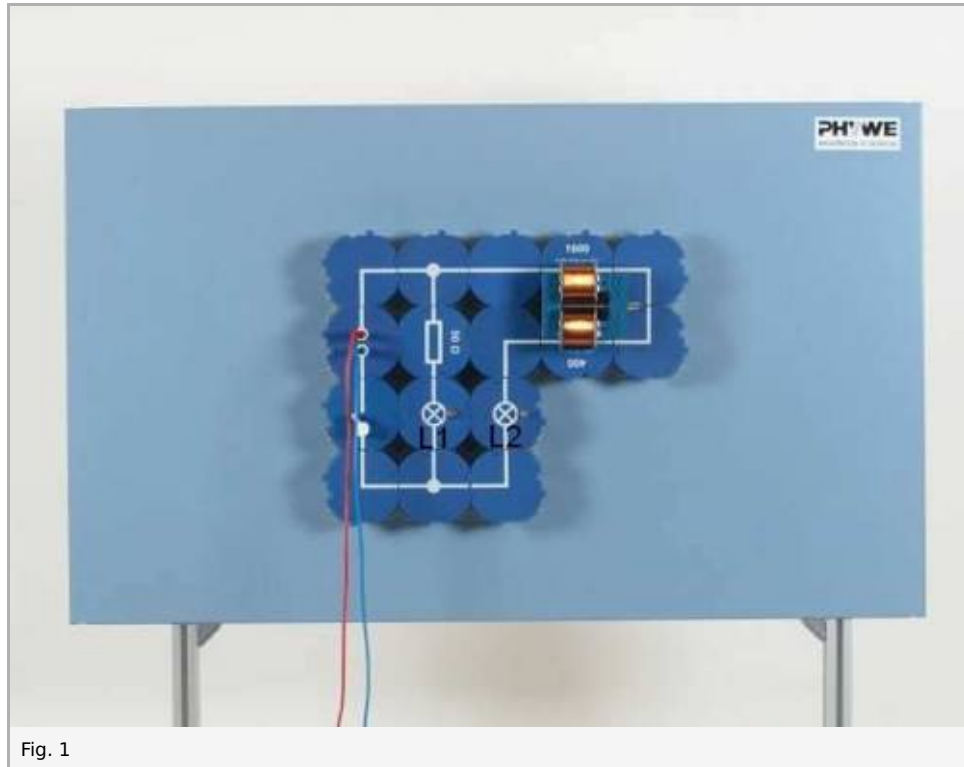

Fig. 1
- Set up the experiment as shown in Fig. 1; Fit the coils with a common U-core and press the yoke tightly on the U-core with the tightening screw
- Close the circuit ; observe and compare the brightnesses of the filament lamps L1 and L2 (1)
- Close and open the circuit in ever quicker succession while observing the lamps (2)